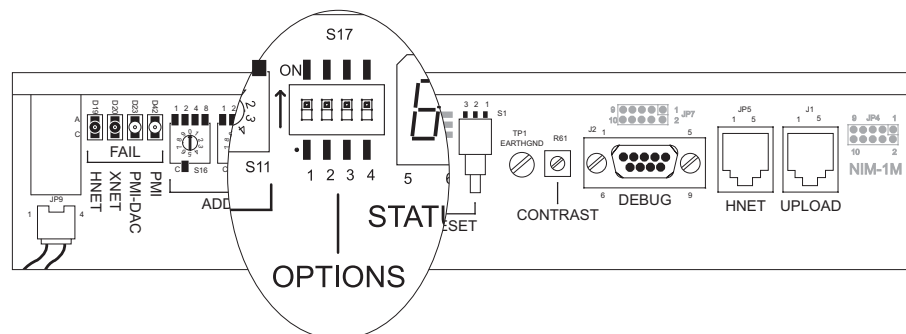

Figure 5
1. Restore power/battery to the PMI in the firmware upgrade mode. To enter this mode, place DIP switch #2 on the options DIP switch (located at the bottom edge of the PMI) in the ON position. (Refer to Figure 5.)